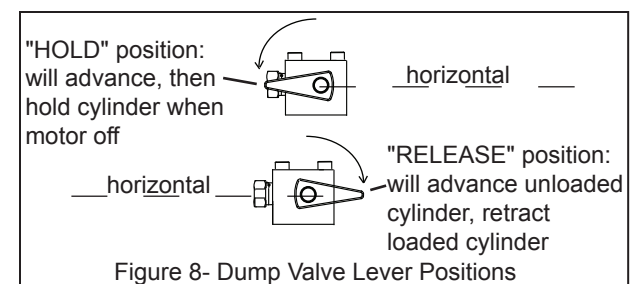

Figure 8- Dump Valve Lever Positions
PARD4003, PARD4001, PARD4003 (see Fig. 8)
4. See Figure 8 below for details.